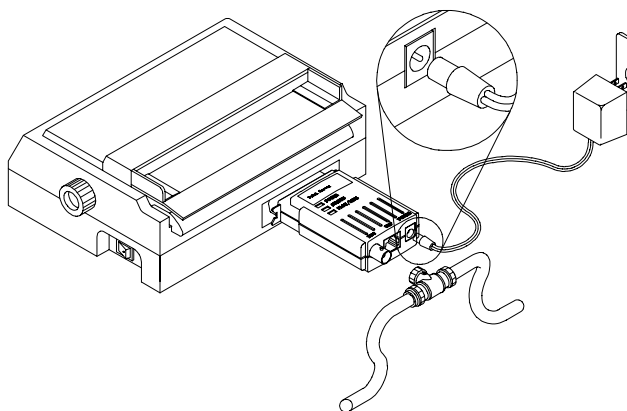

Figure 2-4
1. Connect the power adapter to the print server's AC power adapter jack as shown in Figure 2-4.